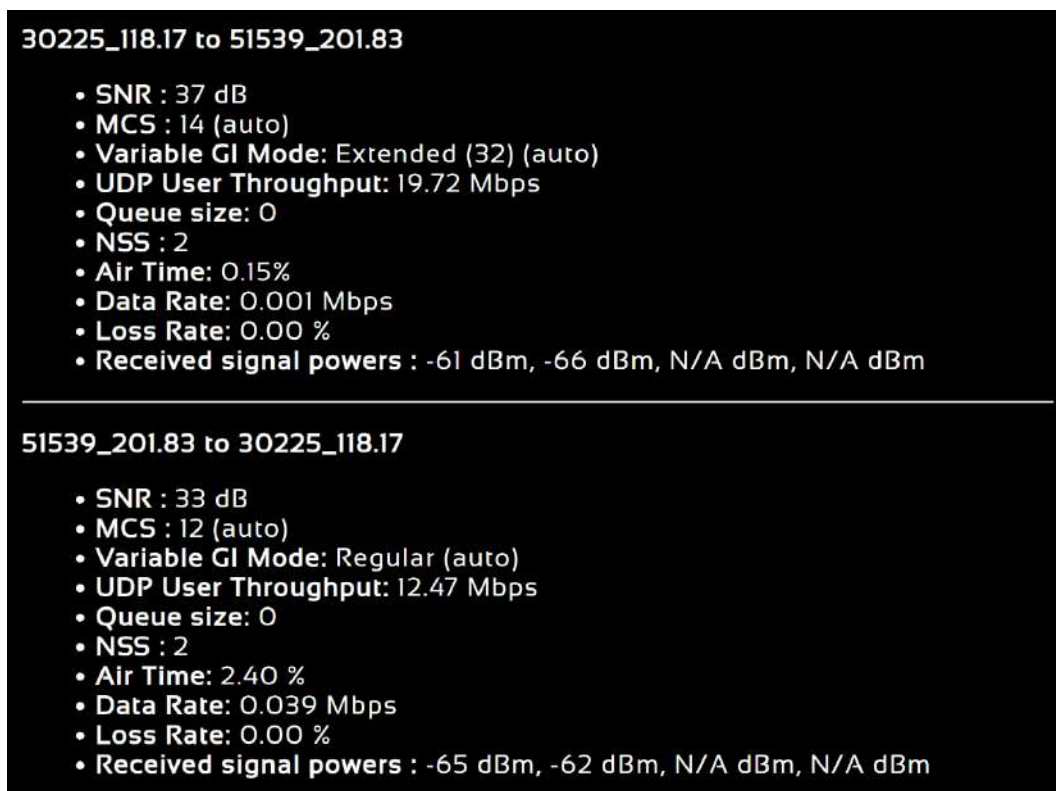

Figure 44 Link Characteristics
- **Link Characteristics** – By double clicking the mouse on any link in the network, users can view key operating characteristics of that link. **Figure 44 Link Characteristics** shows an example of this for the link between ‘node30225’ and ‘node51539’. The characteristics shown are: